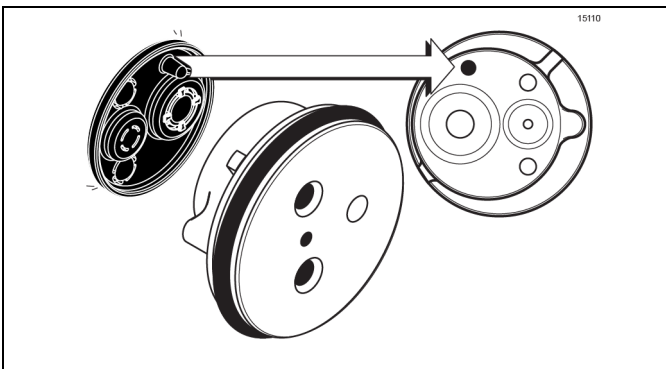

Figure 6-35
6. Slide the pump valve gasket into the holes on the cap. Do not lubricate the gasket. (See Figure 6-35.)